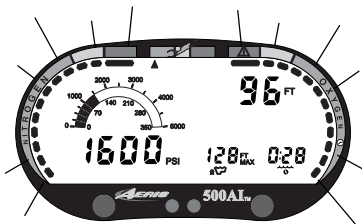

Fig. 73 - Immediate Violation and Gauge Mode (underwater)
If a ceiling *much greater than 60FT (18M)* is required, an **Immediate Violation Mode will be entered** (Fig. 73). This situation would be preceded by entering Delayed Violation Mode, previously described on page 62. The 500AI would then operate with limited functions in **Gauge Mode** during the remainder of that dive and for 24 hours after surfacing.
**Gauge Mode** turns the 500AI into a digital instrument without any decompression or oxygen monitoring functions. Only Current Depth, Max Depth, Elapsed Dive Time, Tank Pressure (digital and Bar Graph), and the Ascent Rate Indicator will be displayed, and the Nitrogen Bar Graph and O2 Bar Graph will flash as a warning of this condition (Fig. 73).